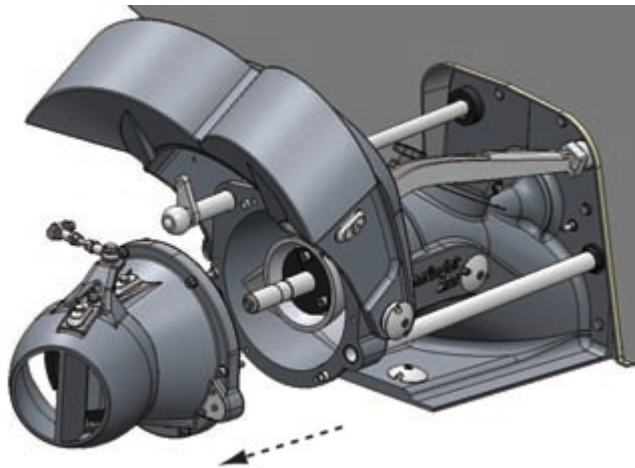

Figure 29. Removing the stator and the steering nozzle
3. Remove the stator and the steering nozzle as a complete unit (Figure 29).